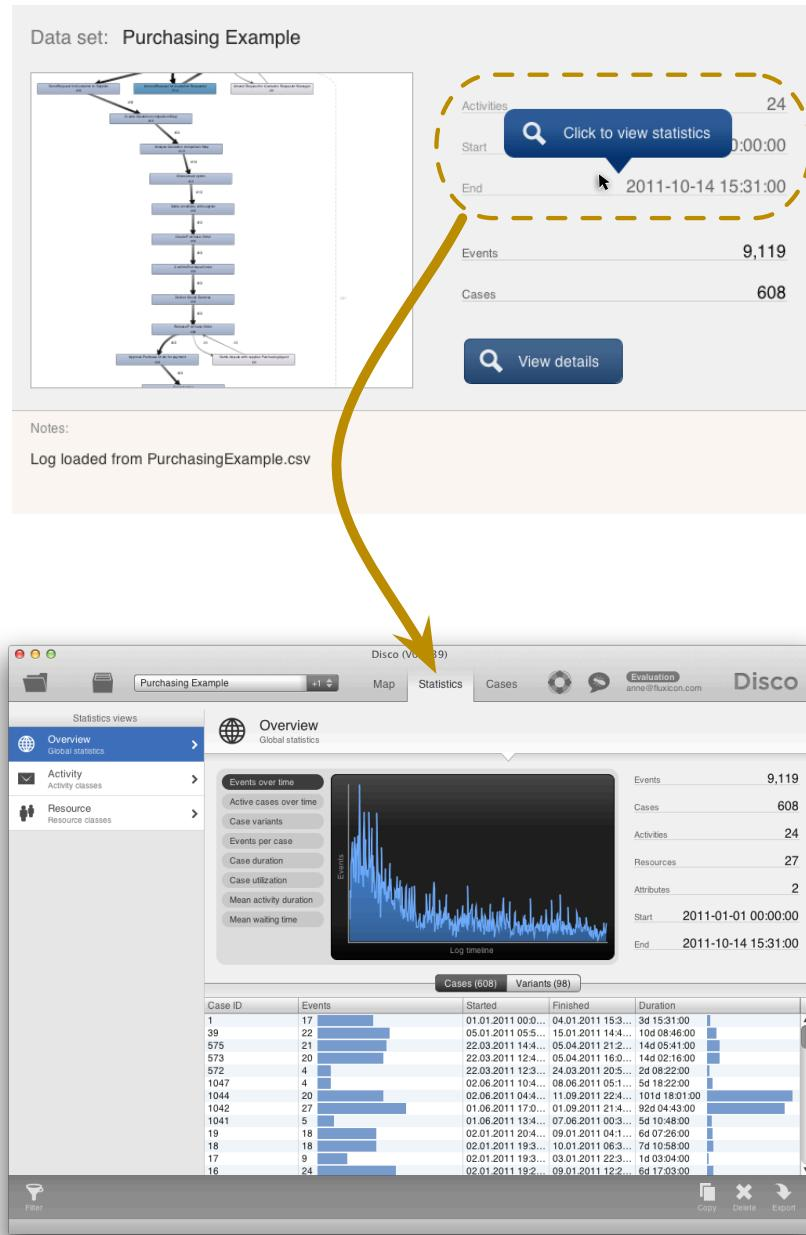

Fig. 6.5. Clicking on the statistics overview in the project view brings you to the detailed statistics for your data set.
- If you want to see the statistics (Chapter 4.2), move your mouse in the overview area until the speech bubble says *Click to view statistics* (see Figure 6.5). One mouse click, and you are in the Statistics view.